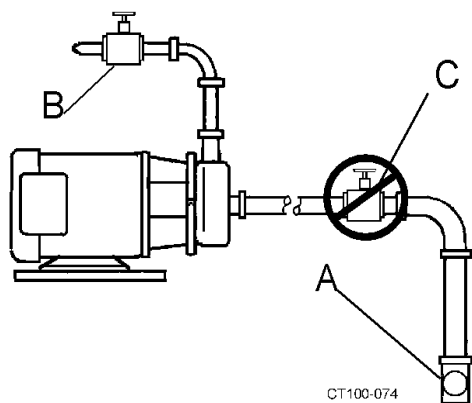

Figure 16 - Valve Piping Installation
- This pump is not self priming. If the pump is installed above the supply liquid level, install a foot valve or other system check valve to keep the system flooded for priming (Figure 16, item A).
- A throttling valve may be required to control the pump flow rate to prevent motor overload. Always install the throttling valve (Figure 16, item B) in the discharge piping, at least 10 pipe diameters from the pump outlet. **Never** install a throttling valve in the supply piping (Figure 16, item C).